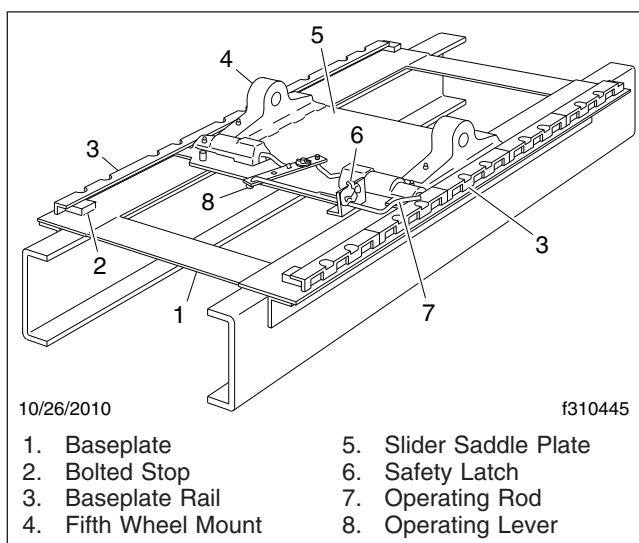

Fig. 17.13, Sliding Fifth Wheel Manual Release, (Holland Simplex)
- 2.2 **Holland:** Pull the operating rod out. Make sure both side plungers have released. See Fig. 17.13.